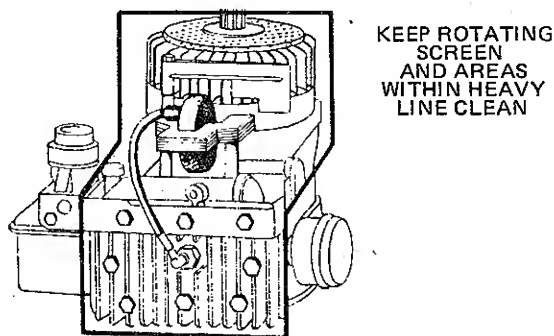

Figure 15.
3. CLEAN COOLING SYSTEM. Grass, chaf or dirt may clog the rotating screen and the air cooling system, (Figure 15), especially after prolonged service cutting dry grasses. To avoid overspeeding, overheating and engine damage, remove the blower housing and clean the area shown. This should be a regular maintenance operation.